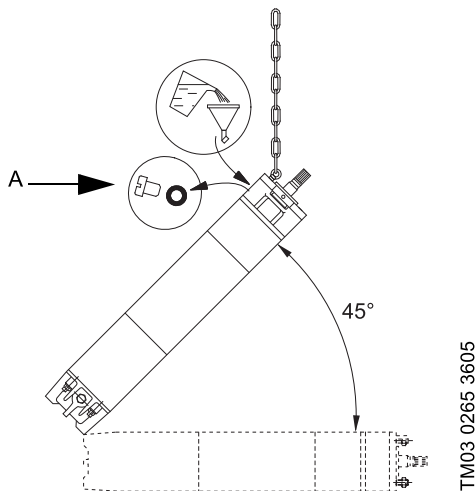

Fig. 5 Motor position during filling - MMS
1. Place the motor at a 45 ° angle with the top of the motor upwards. See fig. 5.